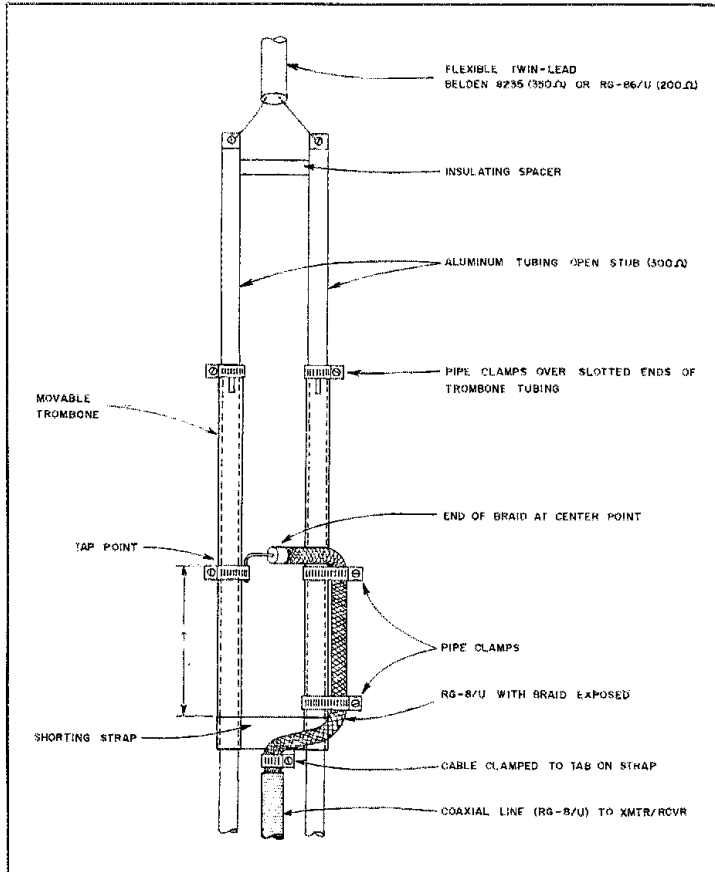

Fig. 3 — Balance-to-unbalance matching unit.
at a current maximum and couple a coaxial line at that point. To do this, I have used a section of open twin-line made of aluminum tubing, with a sliding section, or "trombone," as illustrated in Fig. 3. For a given tap distance (T), the trombone is moved up or down to resonate the antenna transmission-line combination and to give a minimum VSWR on the coaxial line to the transmitter. The tap distance can then be adjusted to reduce the VSWR further if necessary. Since the twin-lines above the shorting strap constitute a resonant system with the antenna, it is not necessary that all twin-line sections be of the same impedance. Thus, I have used an aluminum-tubing section with about 300 ohms impedance, while the flexible twin-line between it and the antenna was anywhere between 200 and 400 ohms impedance.